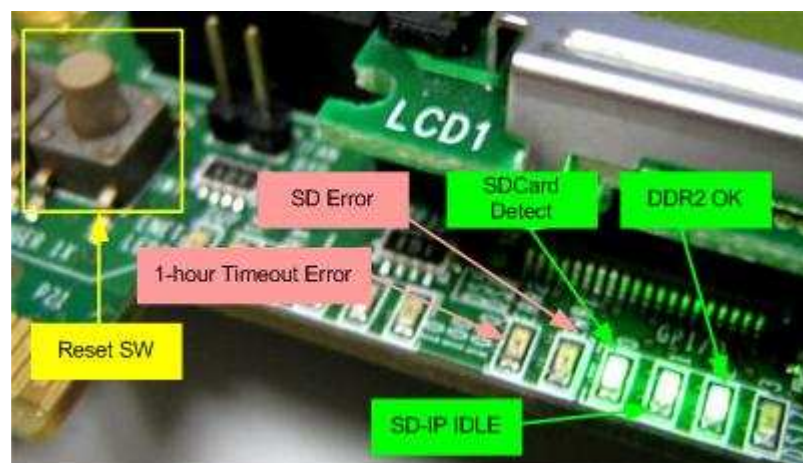

Figure 4 Reset Switch and LED status on ML505/506 board
- Check LED status on ML505/506 board at LED0-2 which should be all ON and ERR LEDs are all OFF, as shown in Figure 4. Each LED description is described as follows.